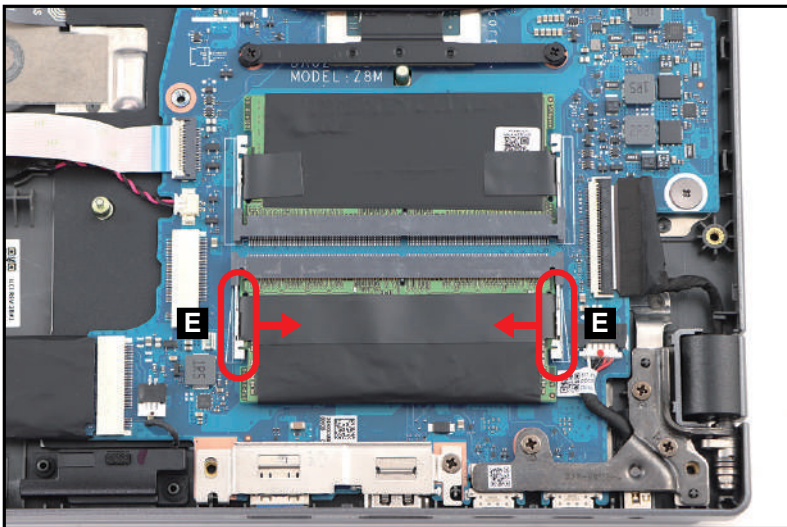

Figure 3-147. Replacing the DIMM Module
6. Press down on the DIMM module until the module clips (E) lock into position as shown in Figure 3-147.